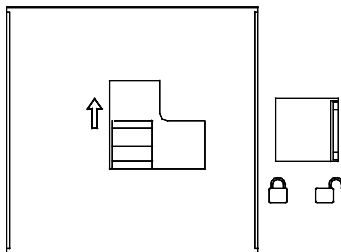

Fig. 9-5
- 3) Set the maintenance switch to OFF position (see Fig. 9-5).